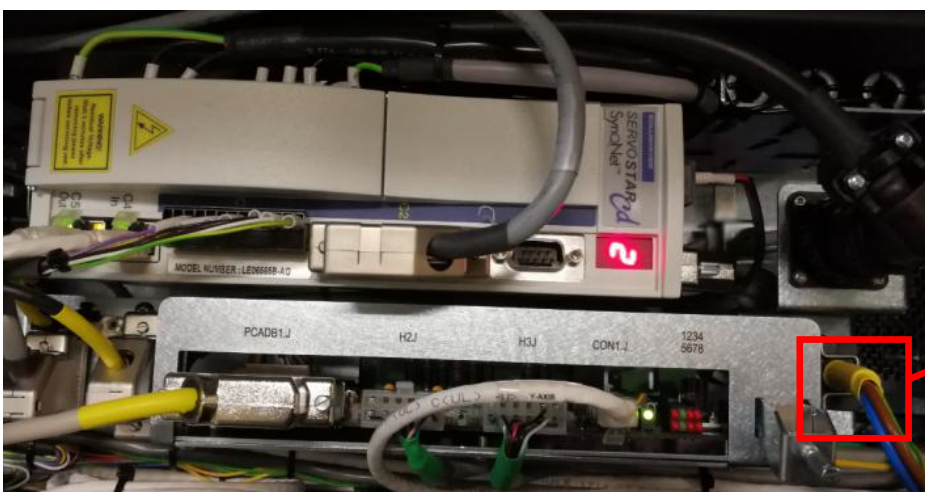

Figure 2
5. Disconnect Power Connector from 01J as below Figure 2.